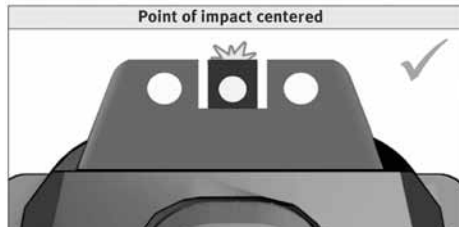
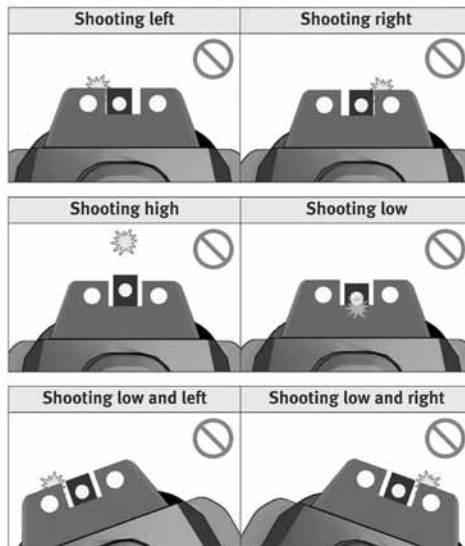

Figure 8 – Correct sight alignment (“Dead On” or “Cover Up” hold)
Figure 9 – Common sight alignment errors
The VP is equipped with a three dot sighting system, similar to those first introduced by HK on the P7 series pistol in the 1970s. The sights are adjustable for both windage (by drifting) and elevation (by replacement of the front sight). Sights are installed and aligned by HK technicians at the factory. Only an HK certified armorer should adjust or replace the VP sights. Figure 8 shows correct sight alignment (generally for the VP series it is a “dead on” or “cover up” hold). Figure 9 shows common sight errors.
1. Acquire the proper sight alignment and sight picture (see Figure 8).